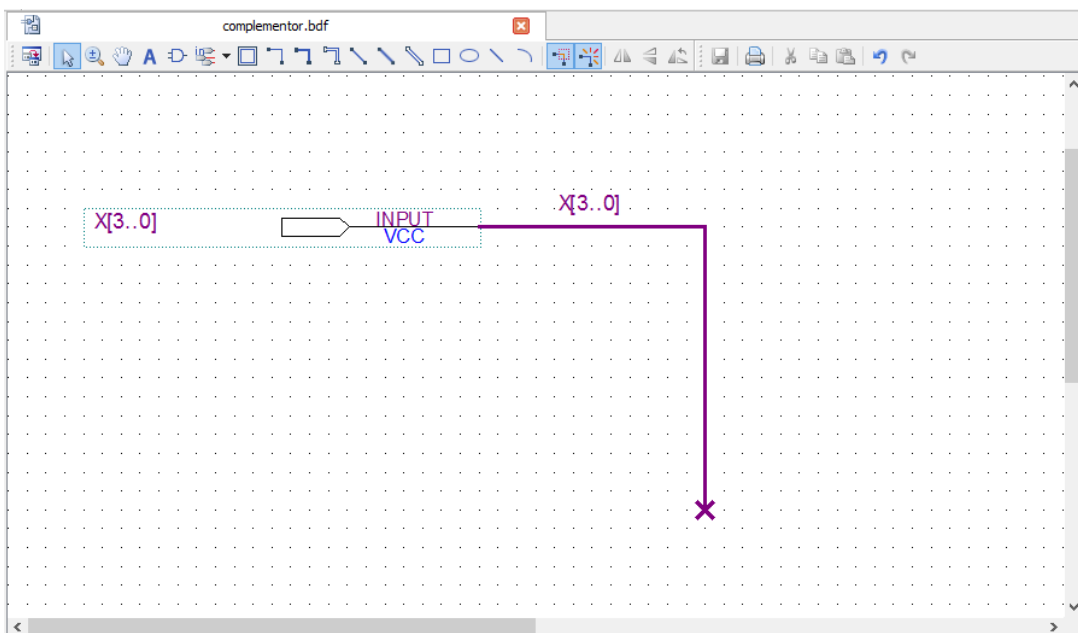

Figure 4.12 4-bit bus with its input pin connected
26. Add a bus to the input as it's shown in Figure 4.12. Do this by selecting the bus symbol (like the net symbol but with a thicker line, 'Orthogonal Bus Tool') and drawing the bus line as in the same figure. Name this bus as 'X[3..0]'.